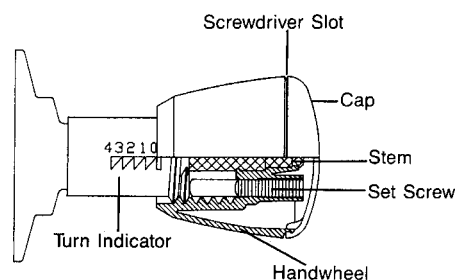

Figure 4 - Memory Setting
- 17.) After valve has been adjusted and without moving the handwheel, insert a standard flat-blade screwdriver into the slot provided in the upper part of the handwheel. (Figure 4) Gently pry the cap off. Insert a 3/32" allen wrench into the metal set screw, located approximately 1/2" off center, next to the valve stem. Turn the set screw in a clockwise direction until it stops. It is not necessary to tighten. The memory has now been set. Align cap onto the handwheel and snap into position. Valve may now be closed tightly and reopened to the memory set position.